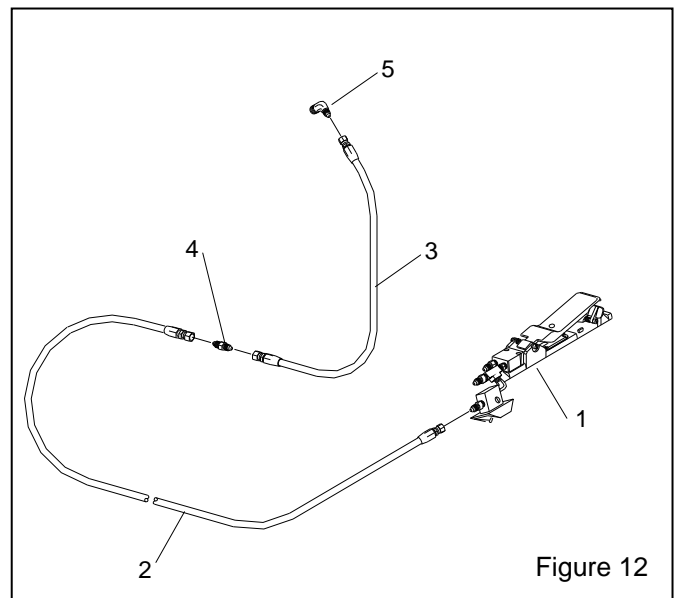

Figure 12
7.5 ACS System Replacement parts, Figure 12